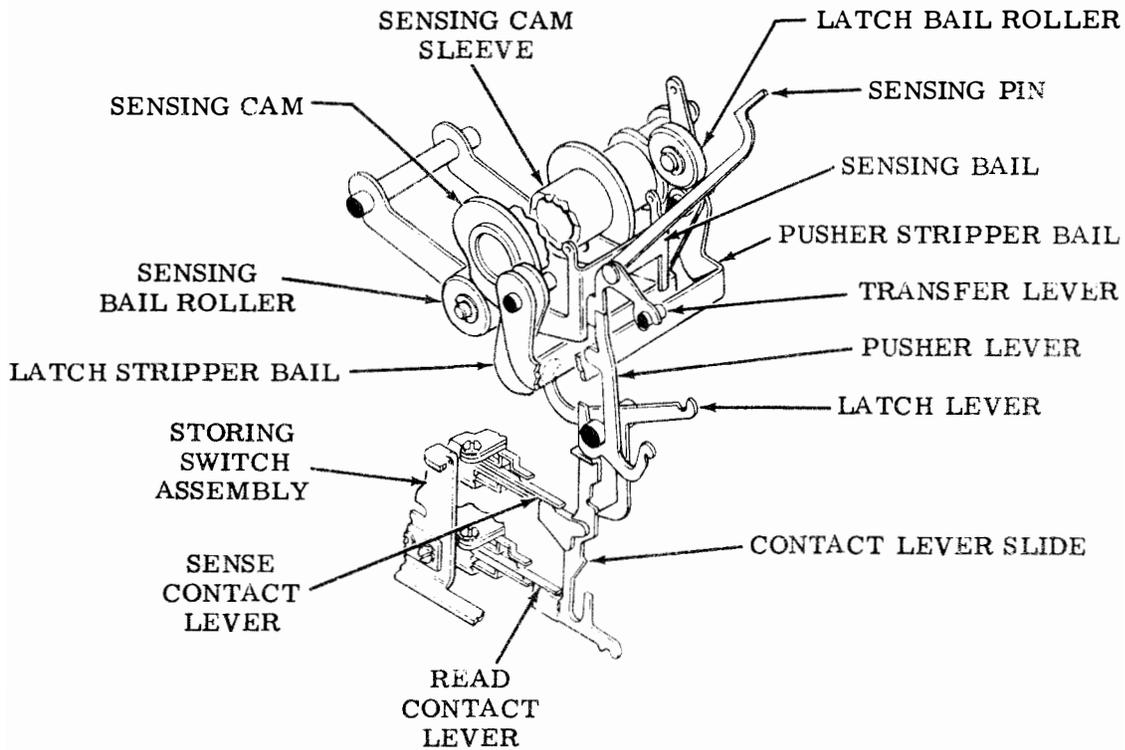

Figure 13 - Tape Sensing Mechanism
7.02 The engaged sensing clutch starts the sensing cam sleeve rotating. The sensing cam, through the sensing bail roller, causes the sensing bail to pivot and the transfer levers and sensing pins to rise (Figure 13).
7.05 The pusher levers (Figure 13) associated with the fully extended sensing pins begin to move downward, engage their associated contact lever slides, and close contacts in the read and sense storing switches. Before contact is made, the latch stripper bail strips the latch levers which held the contact lever slides during the previous cycle. Before completion of this cycle, the latch levers are allowed to reset so that the contact lever slides which were pushed down through the pusher levers are again latched. The unselected pusher levers remain in their upper positions through action of their springs.